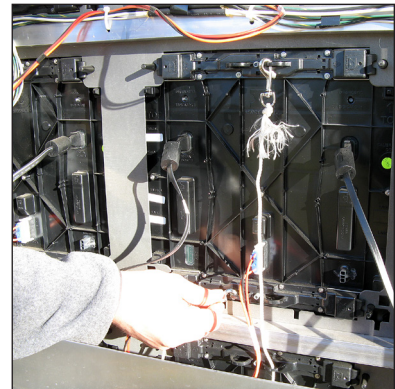

Figure 16: Attach Safety Lanyard to Modules
3. Attach the other end of the lanyard to the lanyard attachment ring on the bottom of the module that will be removed. Refer to **Figure 16**.